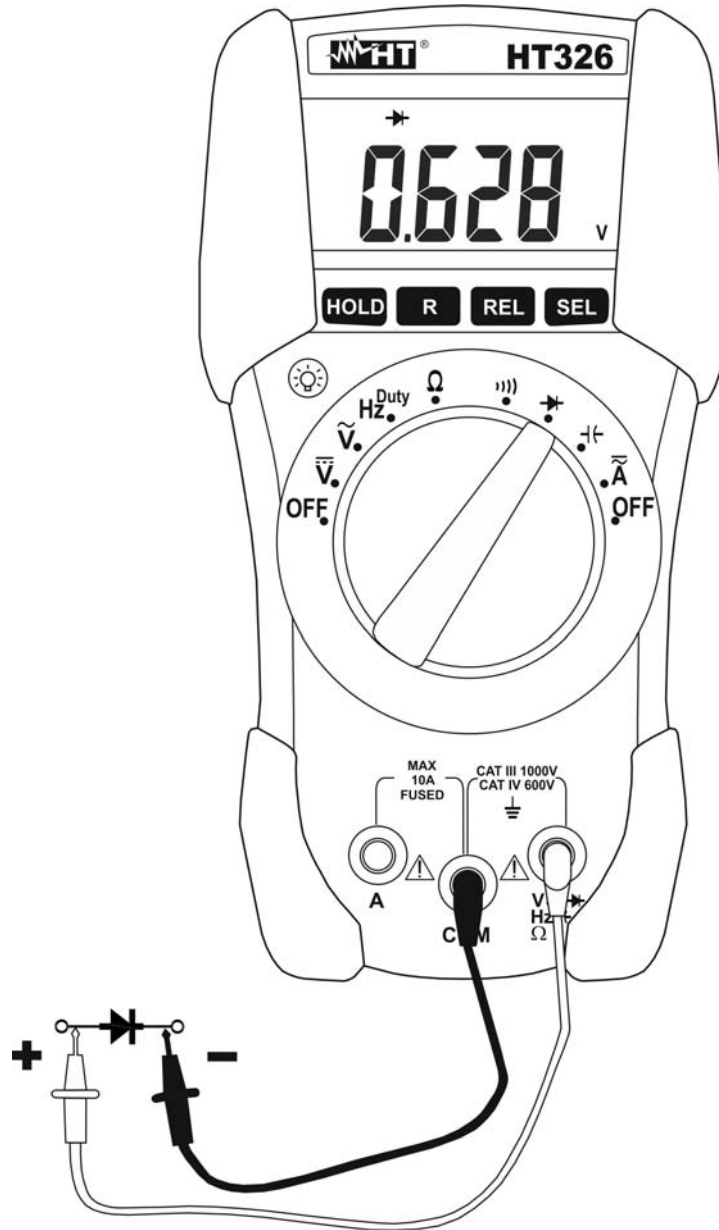

Fig. 8: Using the instrument for Diode test
3. Connect the test leads to the diode under test observing the proper polarities (see Fig. 8)